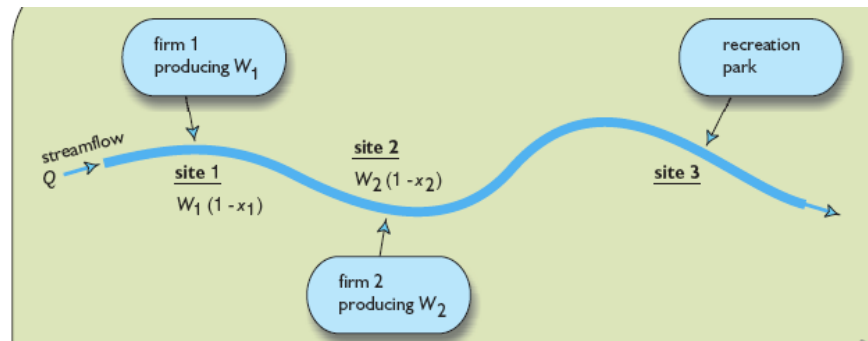

Figure 47.
A city planner wants to know the minimum cost of waste removal (WR) at Sites 1 and 2 upstream of a recreational park (Figure 47). The cost of waste removal can be obtained by summing the cost of 100% (C_1 and C_2) times the fraction of removal for each site (X_1 and X_2). According to a pre-design, the fraction of WR at site 1 (X_1) must be equal to or greater than 0.8 but equal to or less than 1. The fraction of WR at site 2 (X_2) must be equal to or less than 1. There is another constraint expressed as the equation: $X_1 + 1.3 X_2 \geq 1.8$.